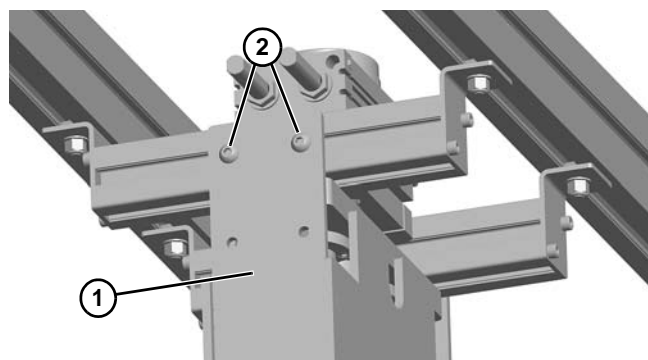

Figure 61
4. Install guard kit (**Figure 61, item 1**) with button head screws (**Figure 61, item 2**) on both sides.